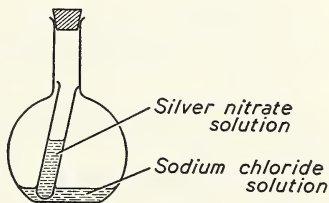

Fig. 46.
1. The apparatus used consists of a flask and a small test-tube which will rest inside the flask, but cannot fall over (Fig. 46).